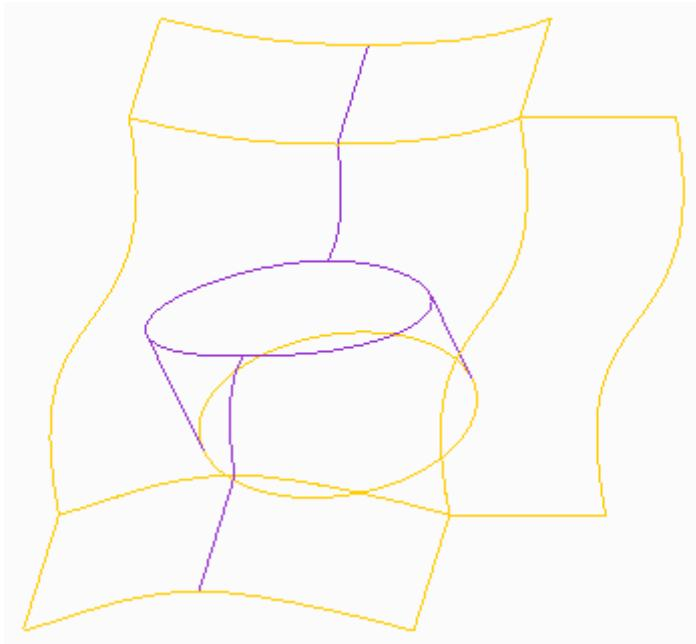

Figure 2 – Surfaces Edge Display of Separate Quilts
- Merging a surface results in the creation of two-sided edges from one-sided edges. In Figure 2, the adjacent quilt surface edges are separate, one-sided edges, as they display in orange.